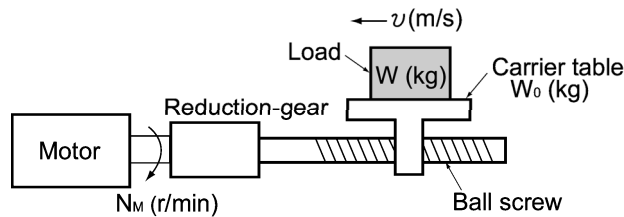

Figure 10.1-7 Moving a Load Horizontally
A simplified mechanical configuration is assumed as shown in Figure 10.1-7. If the mass of the carrier table is W_0 (kg), the load is W (kg), and the friction coefficient of the ball screw is μ , then the friction force F (N) is expressed as follows, which is equal to a required force for driving the load:
Assume a carrier table driven by a motor as shown in Figure 10.1-7. If the table speed is v (m/s) when the motor speed is N_M (r/min), then an equivalent distance from the shaft is equal to $60 \cdot v / (2\pi \cdot N_M)$ (m). The moment of inertia of the table and load to the shaft is calculated as follows: